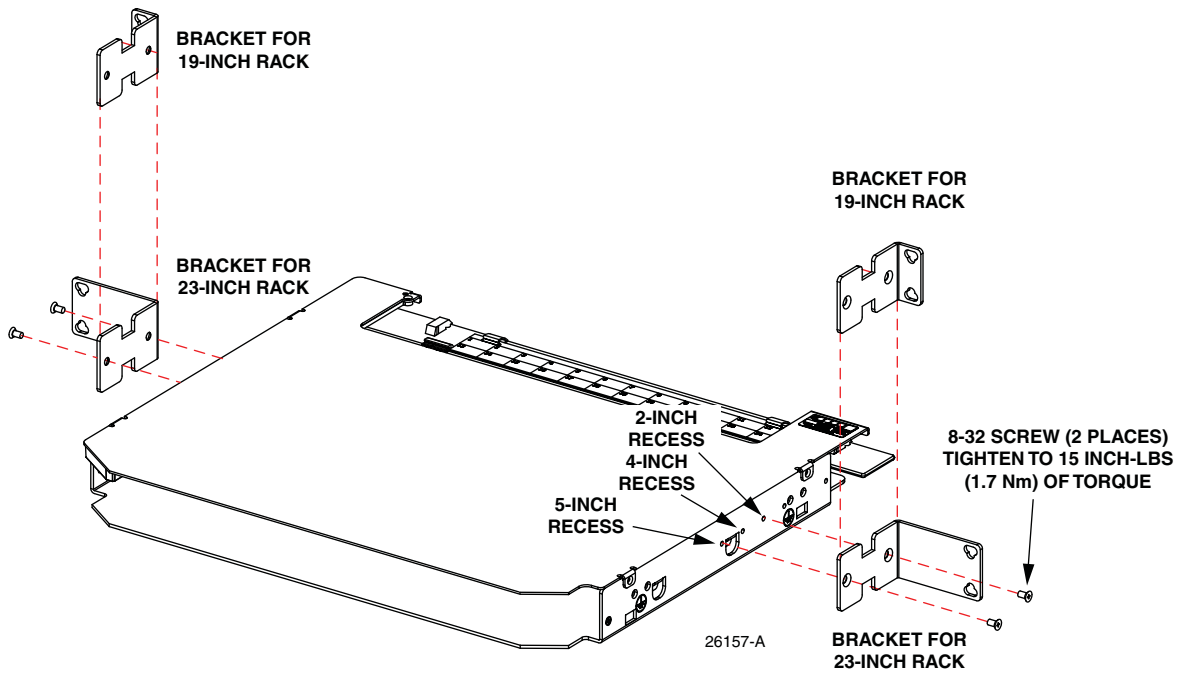

Figure 27. Mounting Bracket Installation
2. Determine if the rack or cabinet width is 19 or 23 inches. Also, determine recess required (2, 4, or 5 inches) for mounting the panel. Refer to Figure 27.